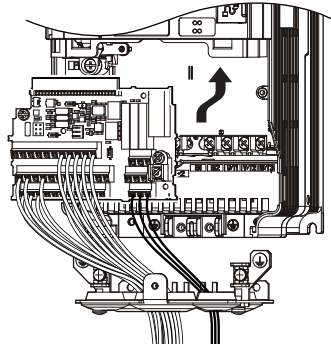

Figure 6.45 Installing the Terminal Board
1. After wiring the main circuit, connect the terminal block to the converter as shown in Figure 6.45. Use the installation screw to fasten the terminal block into place.